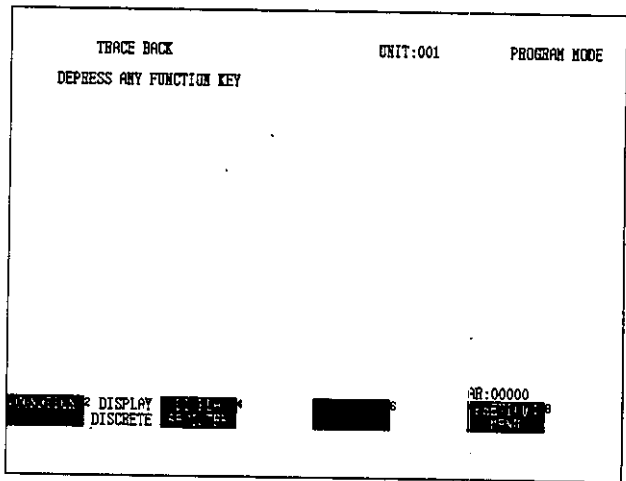

Figure 6.277
- (6) The discrete trigger conditions can be set to the first scan in which the point turns ON (set Trigger On) or the first scan in which the point turns OFF (set Trigger Off).
- (7) The register trigger conditions is set as the numeric value of the register. Enter the trigger point numeric value in the AR and select Trigger Pattern.
- (8) In setting the trigger conditions, "Trigger" automatically becomes "*" when the reference is set. This indicates that there are no trigger conditions. Also, if Trigger is selected even when the trigger conditions have been set, "*" will be displayed and the trigger conditions become invalid.
- (9) Setting up the trigger conditions is valid when all the trigger conditions including discrete and register have been fulfilled (an AND of all conditions).
- (10) If Clear Parameter is selected in setting trigger conditions, the condition where the cursor is will be cleared.
(11) If All Menu is selected, the display will return to the screen shown in Figure 6.277.
- 1) Select Display Discrete on the screen shown in *Figure 6.277*.
- (1) The dotted line "T" shows the location of the trigger point. The numeric values for the trigger point show its coordinates.
- (2) The dotted line "O" shows the location of the moving cursor. The numeric value of the X point show its coordinates. The location of each reference can be easily seen using the moving cursor.
- (3) The waveform trace data can enlarged across the width of the screen to a maximum of 16 times. Select Zoom X × 4 to enlarge it 4 times and Zoom X × 16 to enlarge it 16 times. To display the entire waveform once more, select Zoom Z × 1.
- (4) Select Previous Menu to return to the screen shown in *Figure 6.277*.
- (5) The waveform is not displayed if the trigger conditions have not been met. Also, if a forced end is followed by a waveform display, part of the waveform will be displayed incorrectly.
- 1) Select Display Register on the screen shown in *Figure 6.277*.